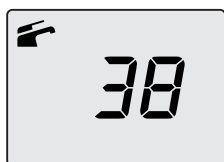

Figure 2.6
- The LCD display shows the boiler temperature (primary circuit) and the symbol  (Figure 2.6).